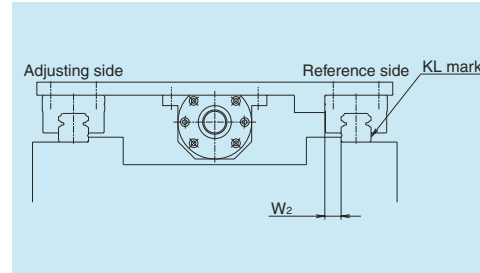

Fig. 10.2 Most common setting of the reference side rail
- When the datum surfaces of the reference side rail and slides are pressed to their mounting datum surfaces respectively, the variation of distance (mounting width  $W_2$  or  $W_3$ ) between the datum surfaces of the rails and that of the slides must be a minimum and therefore, it is specified as the standard. (Figs. 10.2 and 10.3)